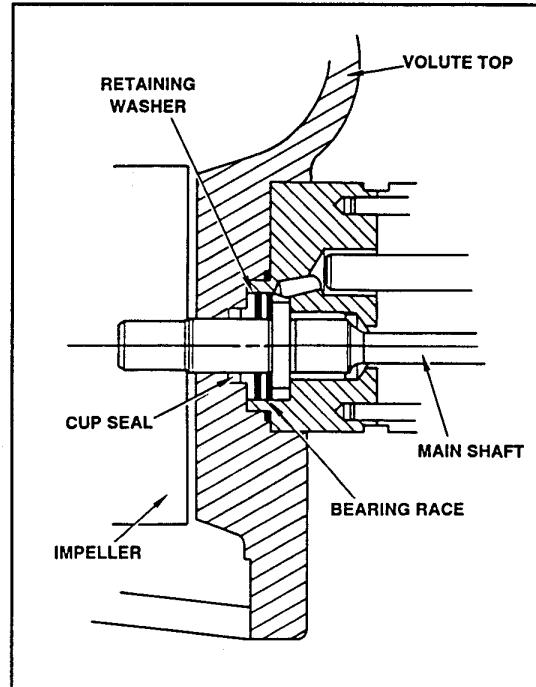

Figure 2. Cup Seal and associated parts
5. If oil leakage around the mainshaft is evident, the cup seal must be replaced. The seal is shown in Figure 2 and is supplied in the seal kit.